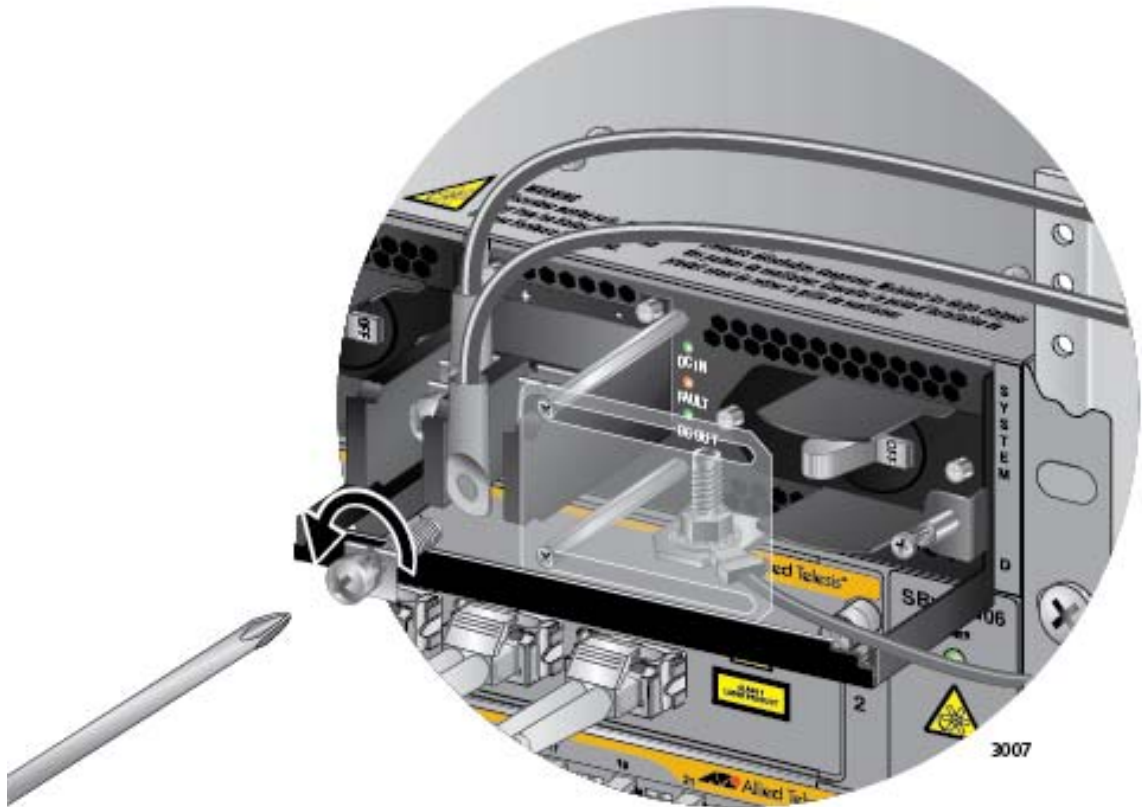

Figure 163. Removing the Negative Lead Wire
5. Use a #3 screwdriver to remove the negative (-) lead wire from the terminal block. The negative lead wire is on the right. Refer to Figure 163 on page 265.